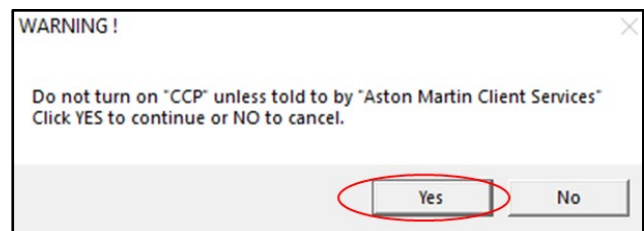

Figure 6
8. Click "Yes" on the dialog box (refer to Figure 6).